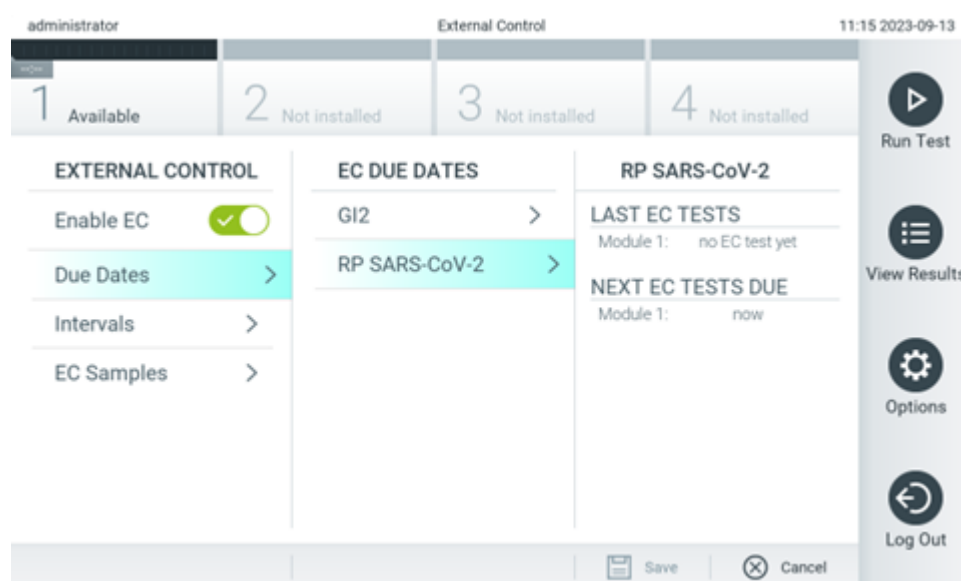

Figure 77. External Control Due Dates screen.
- Press **Due Dates**, then select an assay from the **EC DUE DATES** list to see when the last External Control test was performed per assay and analytical module and when the next External Control test is due (Figure 77).